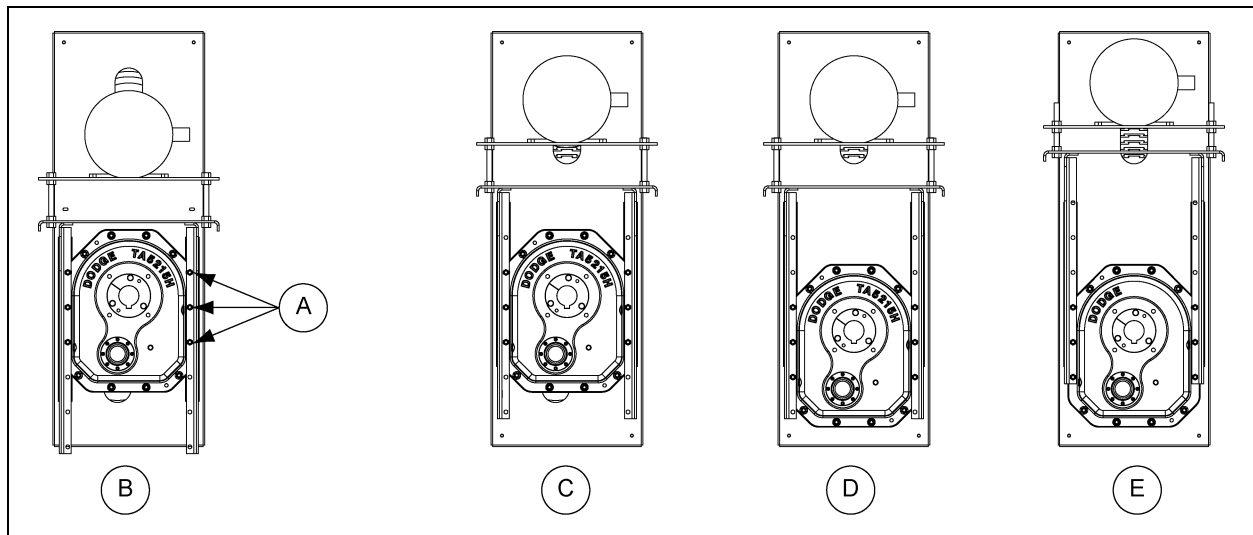

Figure 6AJ
5. Tighten bolts securely. (**NOTE:** *Motor mount upright bracket may have to be trimmed for torque arm clearance.*) (See Figure 6AK on Page 35.)